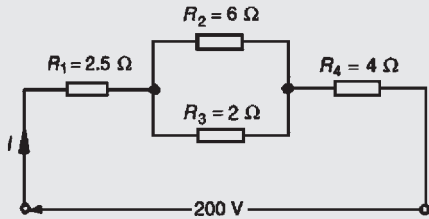
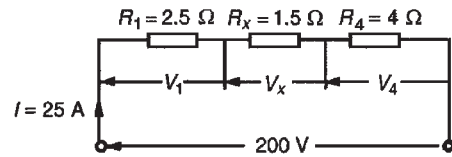

Figure 7.24
Figure 7.25
Problem 12. For the series-parallel arrangement shown in Fig. 7.24, find (a) the supply current, (b) the current flowing through each resistor and (c) the p.d. across each resistor.
- (c) The equivalent circuit of Fig. 7.24 is shown in Fig. 7.25